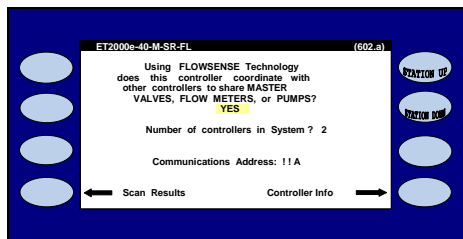

Figure 11.2
5.  Press the **PLUS** or **MINUS** keys to change the amount of controllers in the system (Figure 11.2).